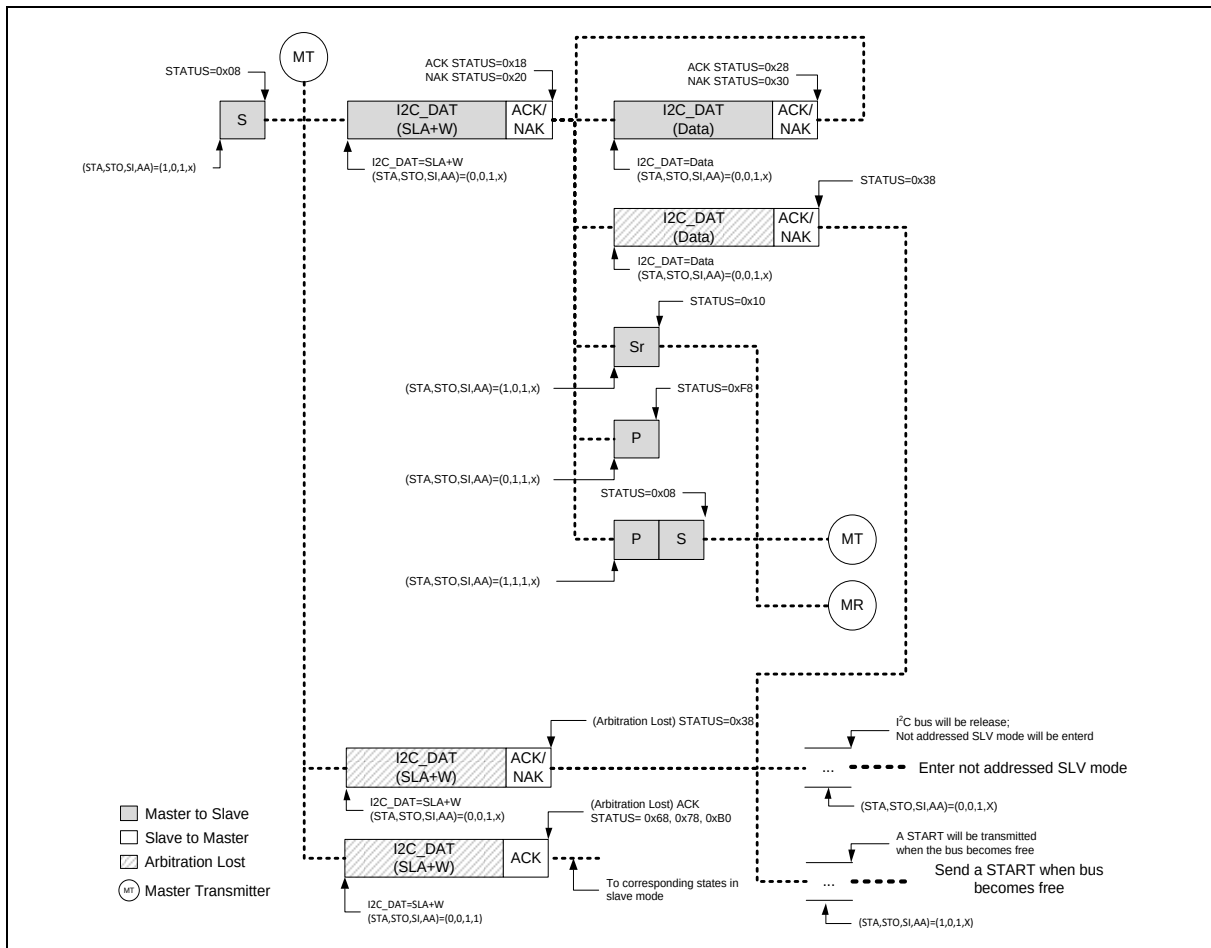
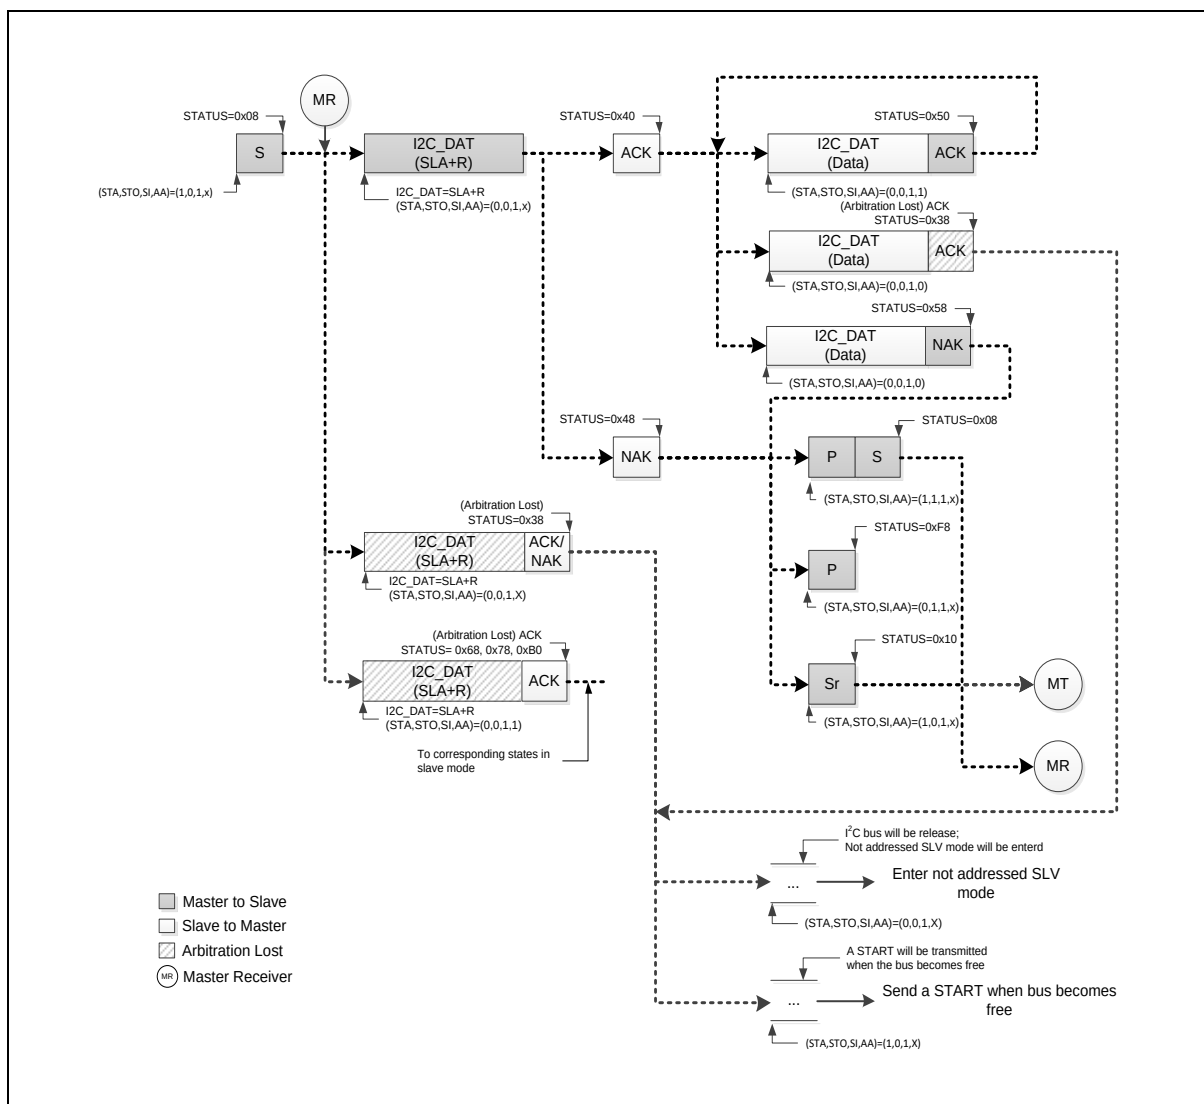

Figure 6.14-12 Master Transmitter Mode Control Flow
Figure 6.14-13 Master Receiver Mode Control Flow
In Figure 6.14-12 and Figure 6.14-13, all possible protocols for I2C master are shown. User needs to follow proper path of the flow to implement required I2C protocol.
In other words, user can send a START signal to bus and I2C will be in Master Transmitter (MT) mode (Figure 6.14-12) or Master receiver (MR) mode (Figure 6.14-13) after START signal has been sent successfully and new status code would be 0x08. Followed by START signal, user can send slave address, read/write bit, data and Repeat START, STOP to perform I2C protocol.